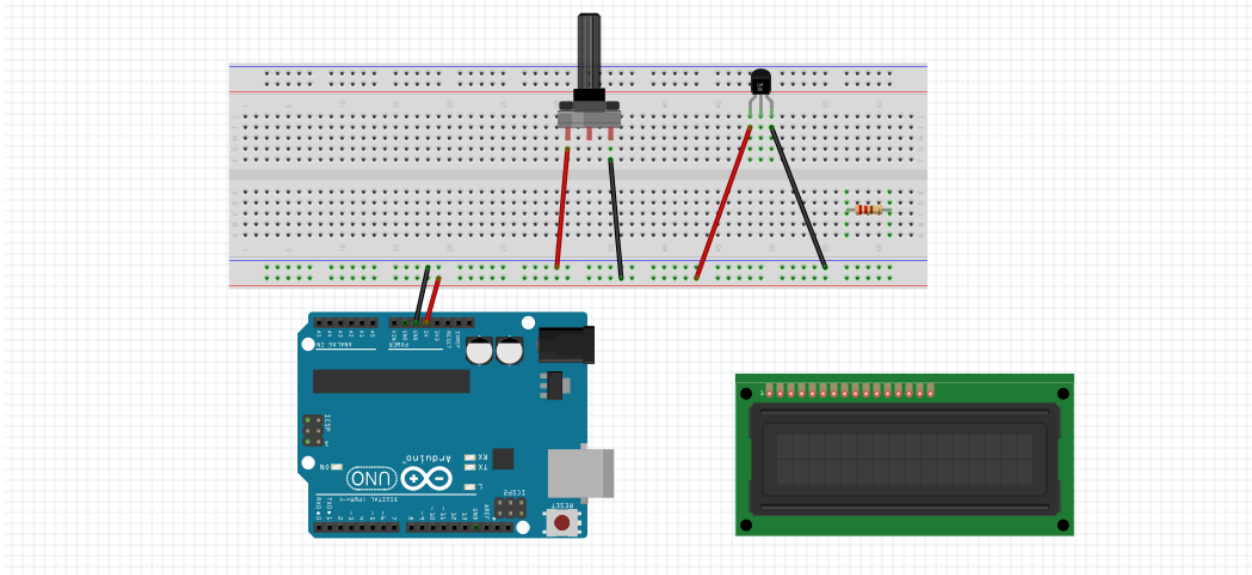

Figure 2.3
- Now we will connect our thermistor and potentiometer to both ground and the supply voltage on the breadboard as shown in figure 2.3 below.